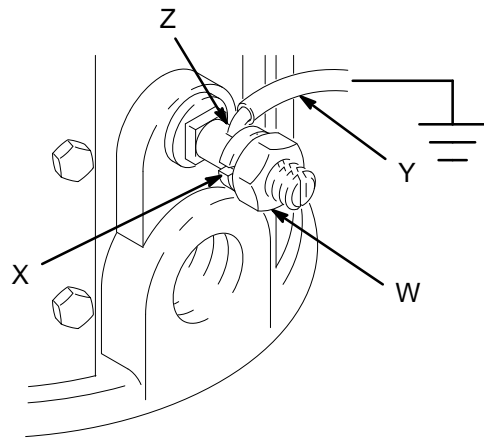

Fig. 1
1. *Pump*: use the ground wire and clamp (supplied). See Fig. 1. Loosen the grounding lug locknut (W) and washer (X). Insert one end of the ground wire (Y) into the slot in lug (Z) and tighten the locknut securely. Connect the other end of the wire to a true earth ground.